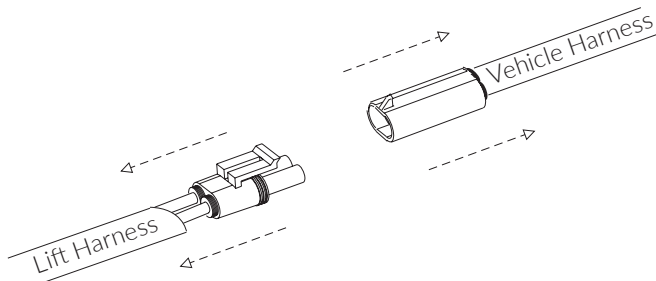

Figure 7-3
1. Unplug power to the lift. *See Figure 7-3.*